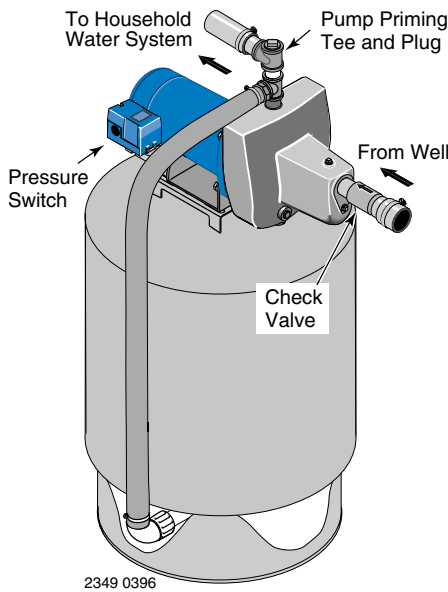

Figure 4: Pre-charged Tank Connections
PRE-CHARGE TANK CONNECTION (FIGURE 4)
- Step 1. Install two tees in the pump discharge port (see Figure 4). The pipe size must be at least as large as the discharge port.